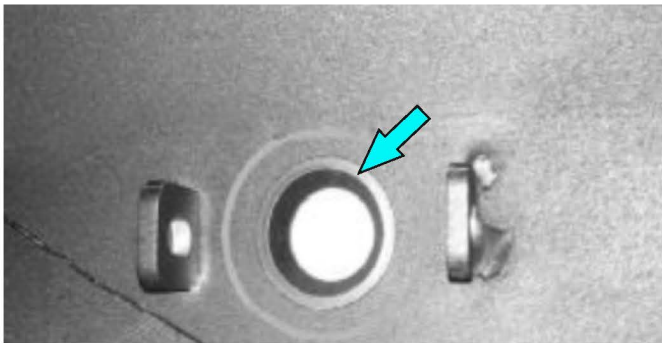

Fig.38
38. Install in parking sensors holes parking sensor washers (item M) (fig.38).